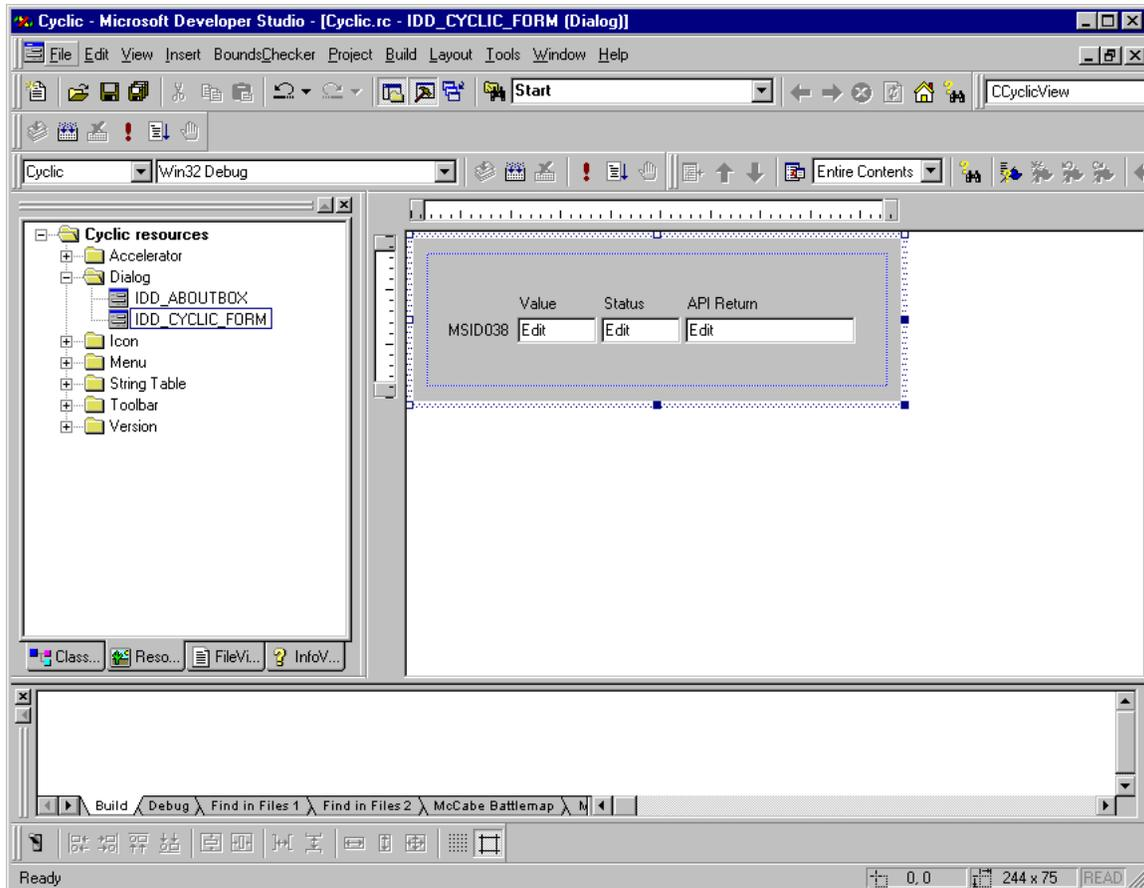

Figure 19 Cyclic Main Window Controls
4. Change each of the other Static controls in the same way. The other static controls from left to right should display the words Value, Status, and API Return in that order. After you are finished your controls should look like the ones in Figure 19.